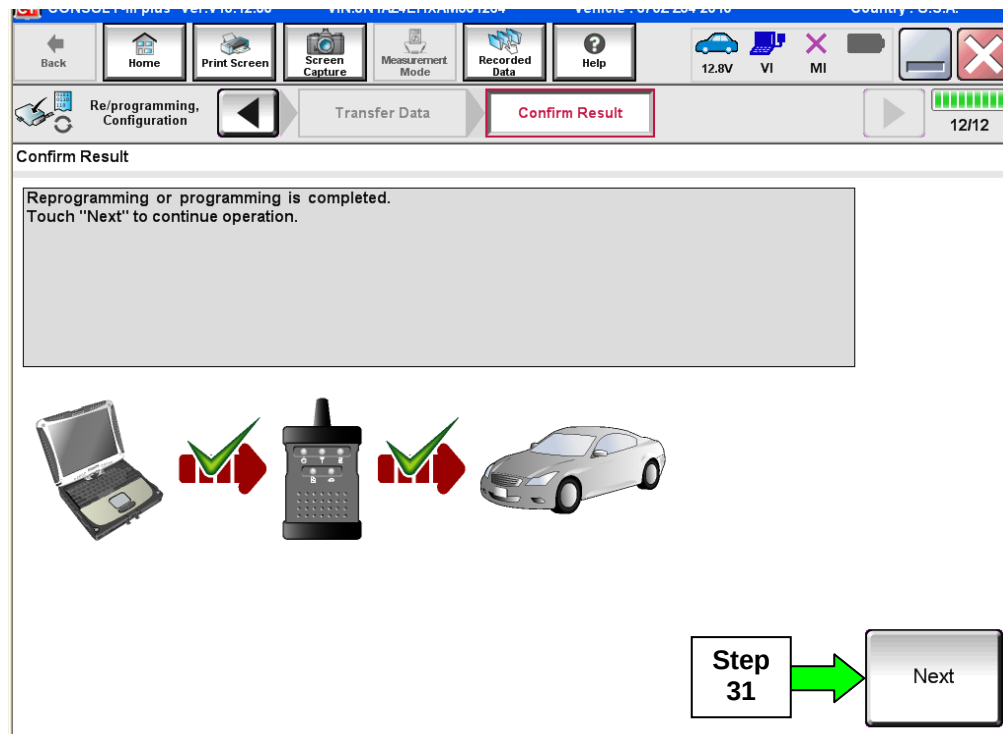

Figure 19a
29. When the screen in Figure 19a displays, reprogramming is complete.
**NOTE:** If the screen in Figure 19a does not display (reprogramming does not complete), refer to the information on the next page.